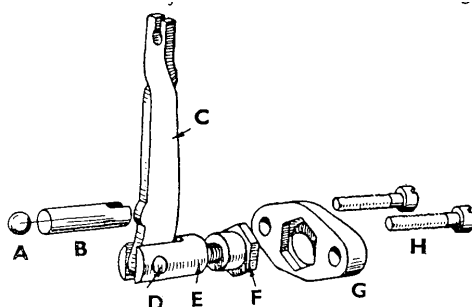

FIG. 72. CLUTCH OPERATING-LEVER ADJUSTMENT (1945-51 MODELS)
1945-51 Burman Clutch (Minor Adjustment). If wear of the inserts is such that only a minor adjustment is called for, loosen the locking nut on the control-cable adjuster, which is screwed into the rear of the kickstarter housing. Then unscrew or screw up a few turns the cable adjuster, according to whether it is desired to decrease or increase respectively the effective length of the control cable. Decreasing the effective length of the cable does, of course, reduce the clearance (see Fig. 72) between the short steel plunger (B) and the nose of the operating lever (C). After making the required adjustment, retighten the locking nut on the cable adjuster.
Referring to Fig. 72, to effect a major adjustment, first remove the two
KEY TO FIG. 72